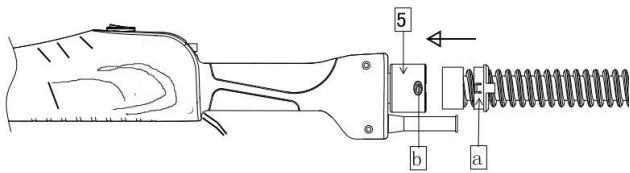

Fig .3
7. Connection Set for Dust Outlet (Fig .3 / 4)
——Installation Guide (Fig .3)